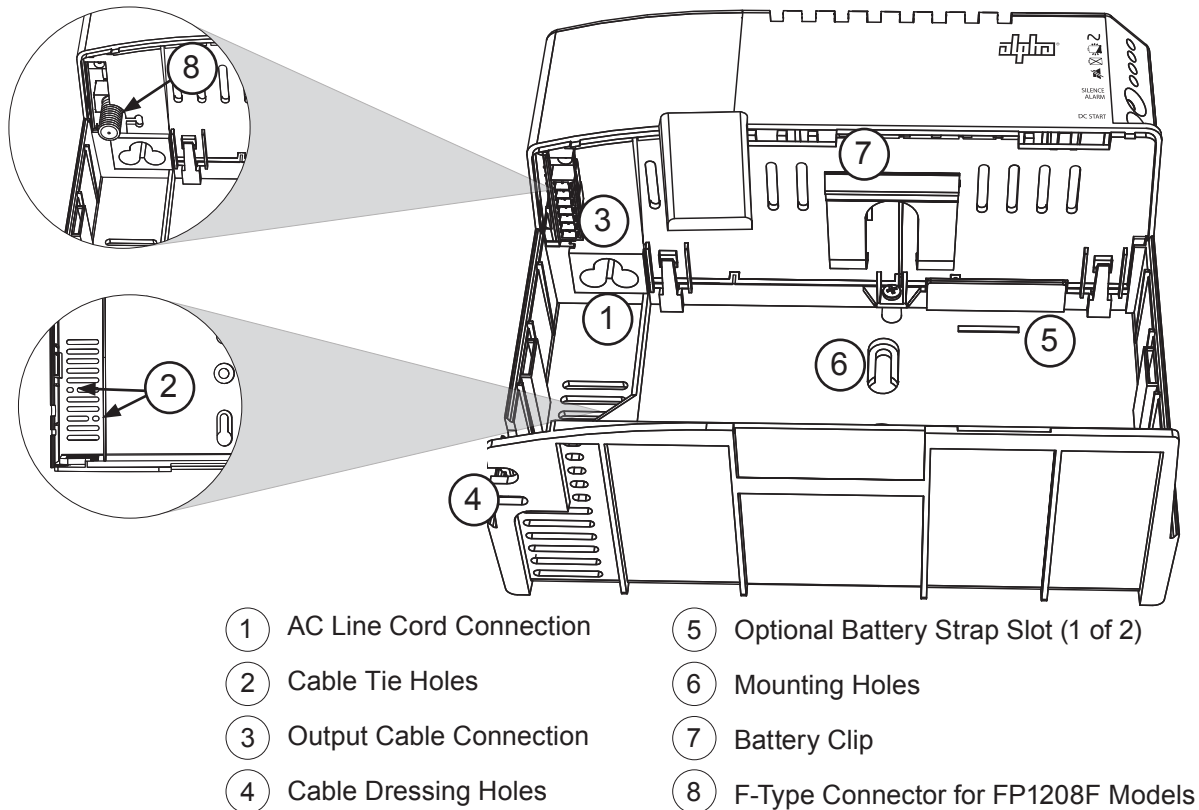

Fig. 2-2, FlexPoint Connections and Components
2. If applicable, ensure the optional battery strap is installed through the two battery strap slots, see item 5 in Fig. 2-2.